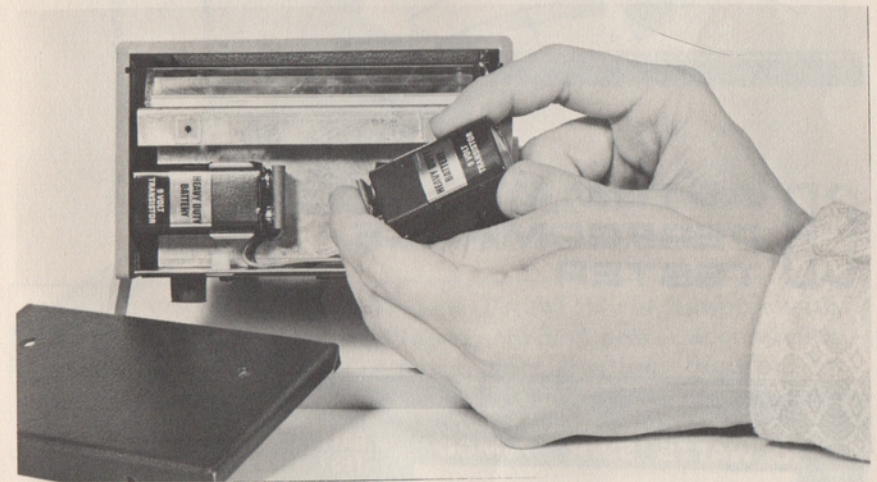

Fig. 1 — Battery installation
2. Clip the batteries into place and push them into the retaining clips inside the battery compartment, as shown in Fig. 1.